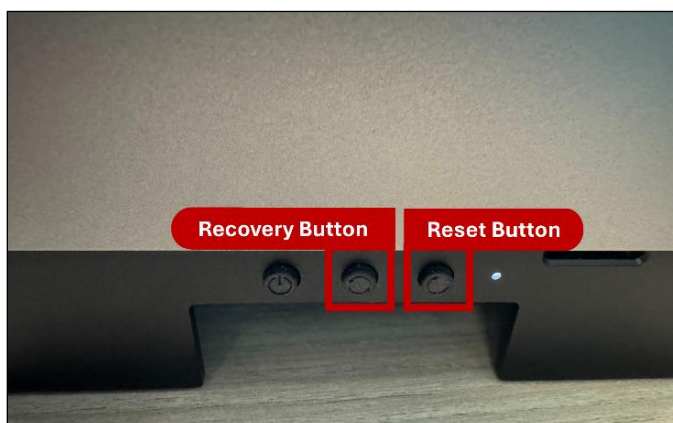

Figure 6.5. Recovery and Reset Button
3. Place the AGX Orin into recovery mode by pressing and holding the recovery button as shown in Figure 6.5. While holding the recovery button, press the reset button and release it. Wait for about three seconds or more, then release the recovery button.